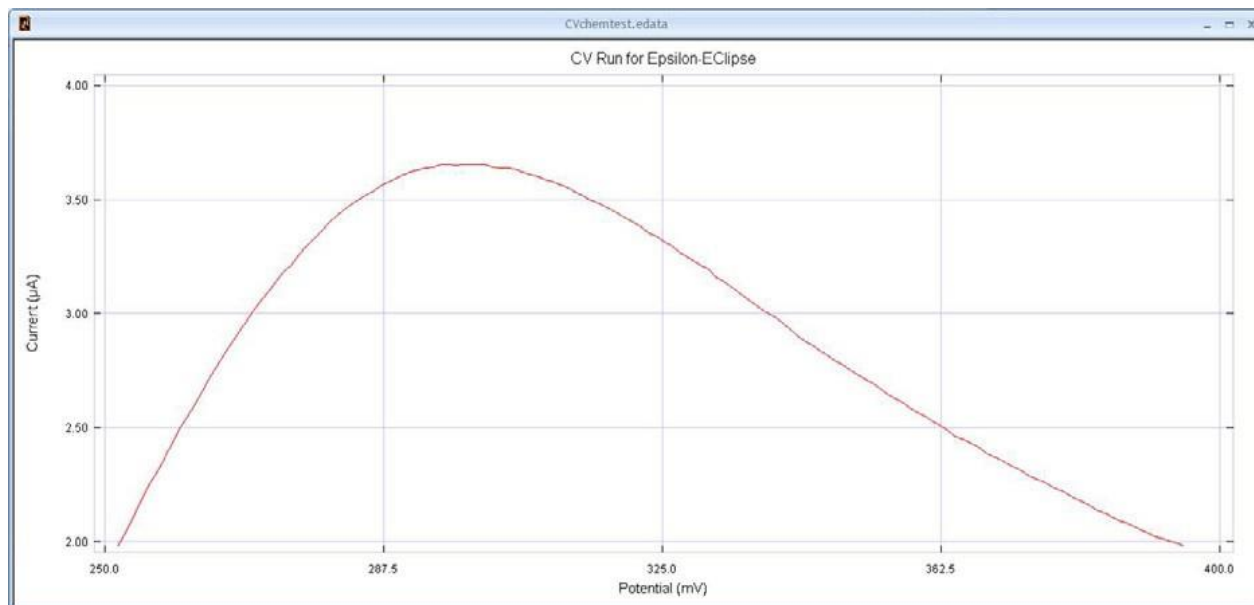

Figure 4 - Enlarged section of the Cyclic Voltammetry graph
6. A specific area of the graphic can be enlarged by using the mouse cursor (and the left mouse button) to define the area (Figure 4), by using the mouse scroll to zoom in and out, or by entering the x and y values in the **Data Display Settings** dialog box in the **Graph** menu (Figure 5). The original graph can be restored using **Zoom Full Range** in the **Graph** menu.